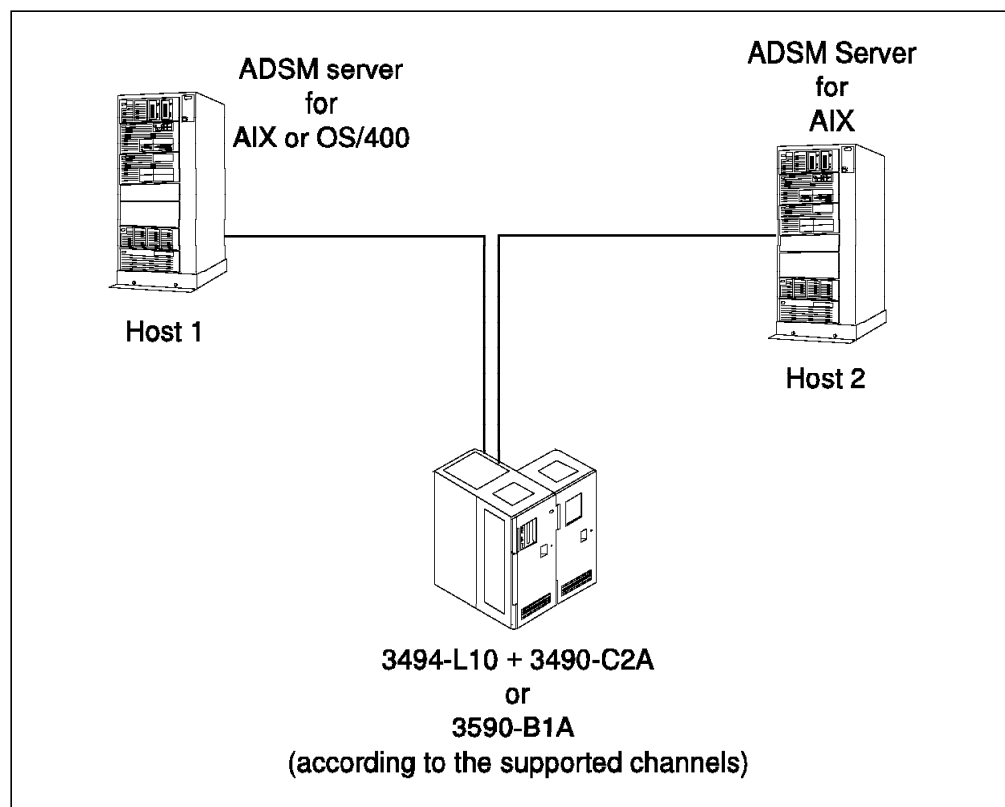

Figure 76. Partitioning between ADSM/6000 and an AIX or OS/400 ADSM Server.
**AIX and OS/400 ADSM Servers:** See Figure 76.
According to the configuration shown in Figure 76, the sequence of commands shown in Figure 77 is to be executed on host 2.